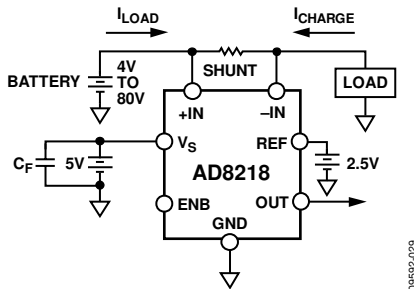

Figure 30. 5 V Supply Operation
The AD8218 can also be powered from a separate low impedance supply at Pin 2 (VS); however, this voltage can only be in the 4 V to 5.5 V range. In cases where the high voltage bus is susceptible to noise, transients, or high voltage fluctuations and a 5 V supply is available, the AD8218 can be used in the mode depicted in Figure 30.